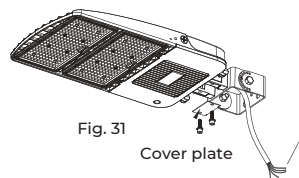

Fig. 31
2. Install the bracket onto the fixture as shown in Fig. 31.